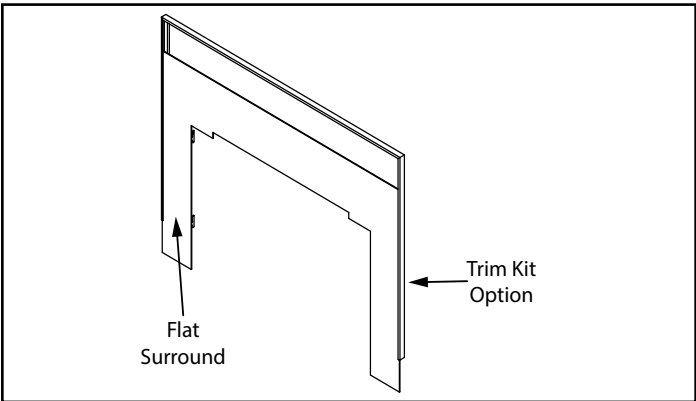

Figure 5.13
- 4. Slide trim over flat surround as shown in **Figure 5.13**.